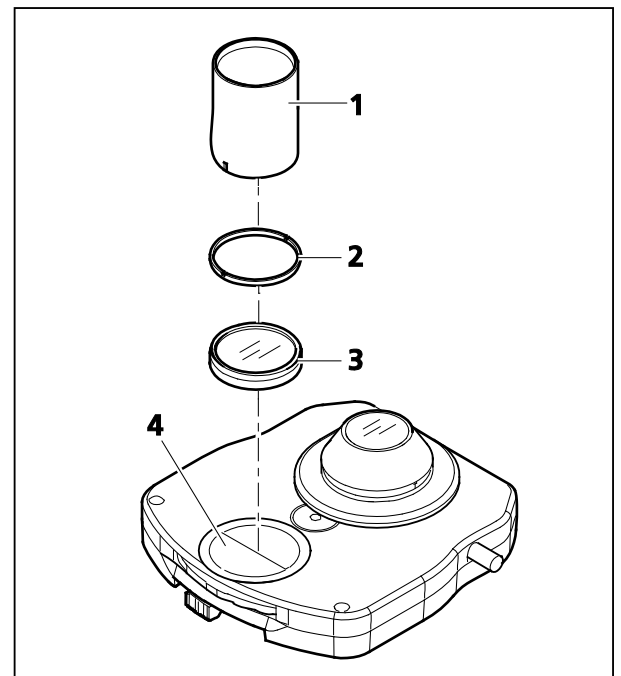

Figure 3-40 Replacing the DIC prism
- To take out the cover plate, turn the condenser cover plate (Figure 3-40/4) using the double function tool (Figure 3-40/1) to unlock the bayonet socket and allow removal.
- Unscrew the retainer ring (Figure 3-40/2) using the double function tool (Figure 3-40/1).
- Take out the DIC prism (Figure 3-40/2).